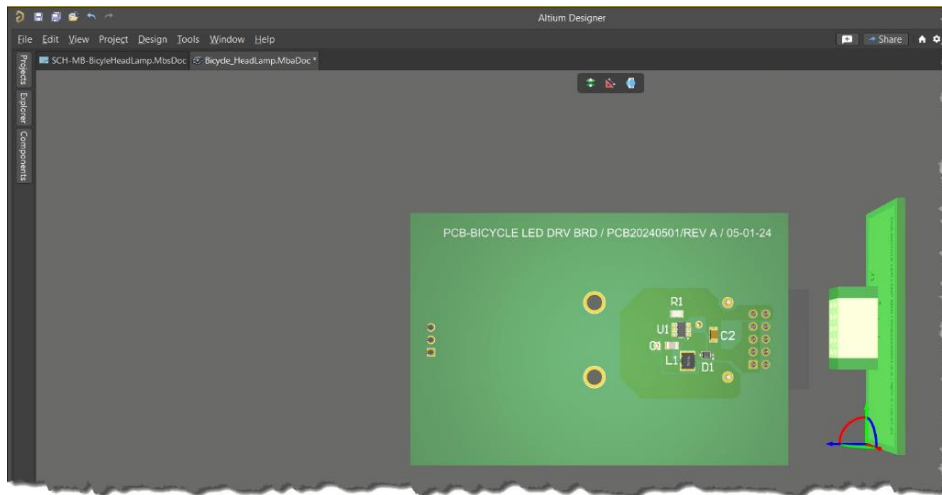

Figure 26. Align smaller board with the larger one
59. Now, move the smaller board towards the larger board connector. Left mouse click and hold while dragging board in front of larger (main) board J1 connector. Once roughly in position, let go of left mouse click. Results should look like Figure 26 below.